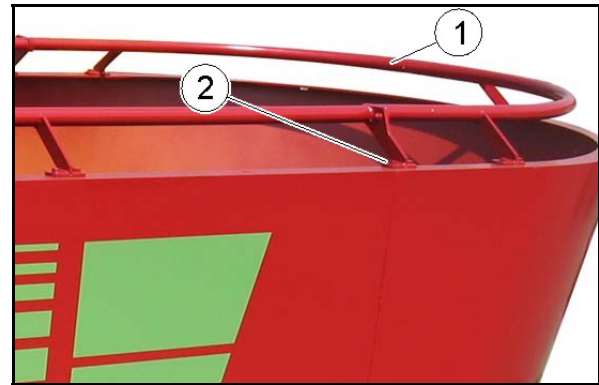

Fig. 23
- an elevated overflow ring (Fig. 23), screwed on the top edge of the container,